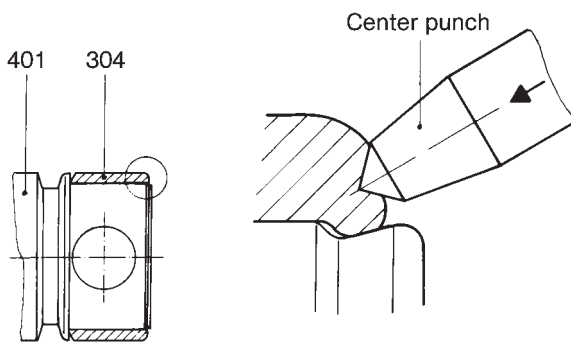

Fig. 7: Securing the retaining sleeve
- Push clamping bands (306), cover sleeves (308) and retaining sleeve (304) onto the shaft of the coupling rod (307).
- Push coupling rod (307) into the head of the rotor (401) or the hollow shaft (125).
- Push coupling rod pin (301) into coupling rod bush (302) and drive in guide bushes (303) completely.
- If necessary, emery the outside of the retaining sleeve (304) and pull it over the head of the rotor (401) or hollow shaft (125).
- After installation on the head of the rotor (401) or hollow shaft (125) the retaining sleeve (304) must be secured against axial movement.
ATTENTION For this purpose drive the face of the retaining sleeve (304) with a center punch mark into the groove in the rotor head (401) or drive shaft head (125), Please refer to Fig. 7.